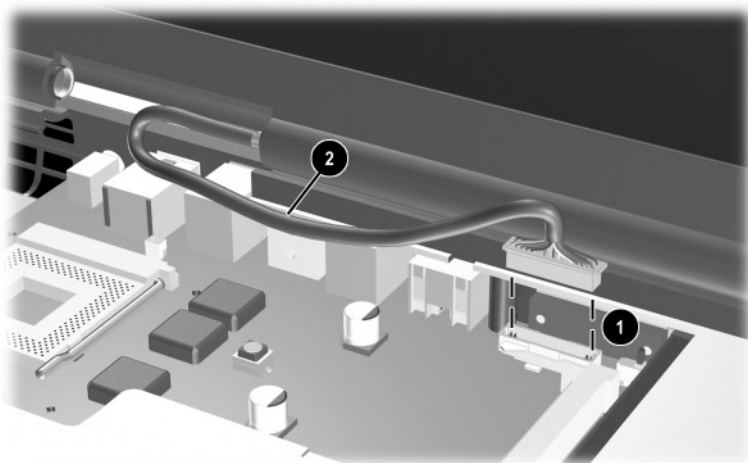

Figure 5-20. Disconnecting the Display Cable
3. Disconnect the display cable ❶ from the system board (Figure 5-20).
4. Route the display cable out of the retention clip ❷ in the top cover.